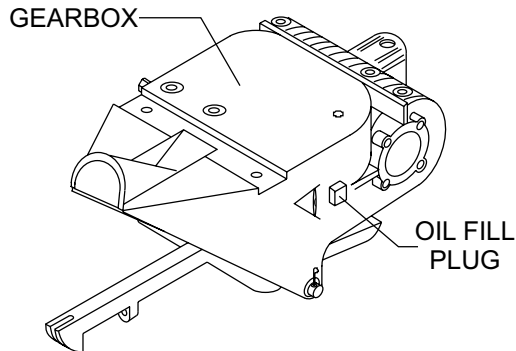

Figure 8. Gearbox Oil
1. Determine if gearbox oil is low by removing the oil plug located on the side of the gearbox (Figure 8). This plug will be marked by the 'check' decal. The correct level of gearbox oil is to the bottom of the fill plug.